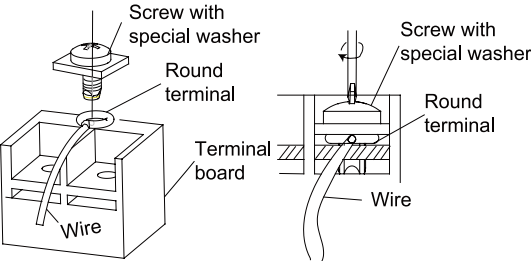

Fig.37
- 4). Position the round terminal wire, and replace and tighten the terminal screw with a screwdriver.(Fig.37)